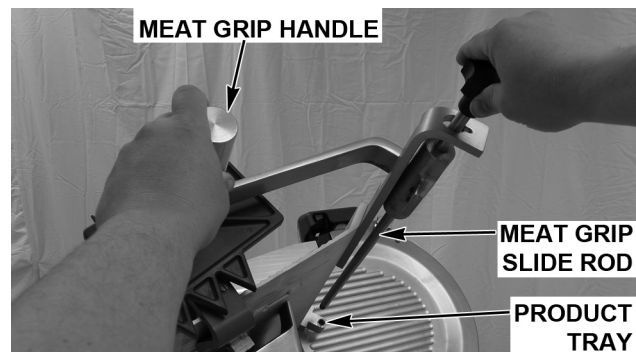

Fig. 26
- Install the Meat Grip Assembly (Fig. 26) on the Product Tray by sliding the Meat Grip Slide Rod into the Meat Grip Handle and Product Tray.